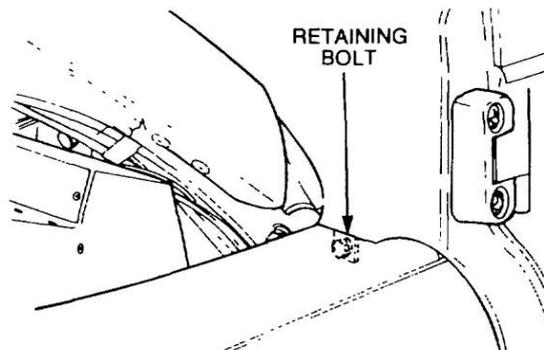

Figure 153 Removal of the Mudguard-to-firewall Bracket
- l. Remove the bolt and flat washer securing the top of the mudguard to the firewall bracket (Figure 153).